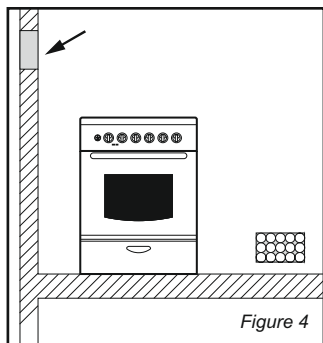

Figure 4
•If it is impossible to install a hood, an electric extraction fan should be fitted in a wall or a window opening out of doors (Figure 4)